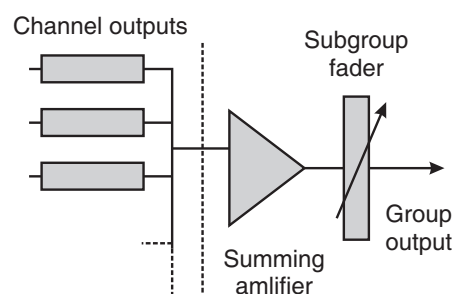

Fig. 9.6
**Audio Grouping:** Audio Grouping means making a single audio output to take a number of channel inputs. A single fader controls the level of the summed signal & there will be a group output from the Console. Fig. 9.6.